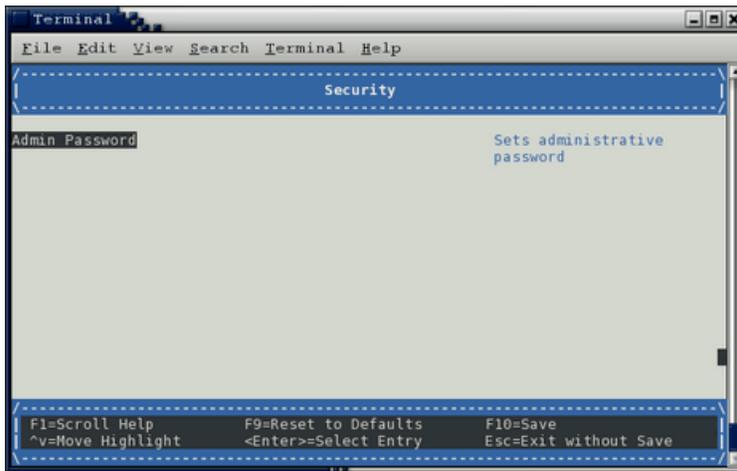

Figure 4-4 Security Screen Admin Password Option
5. From the **Security** screen, select the **Admin Password** option, as shown in Figure 4-4 on page 54.